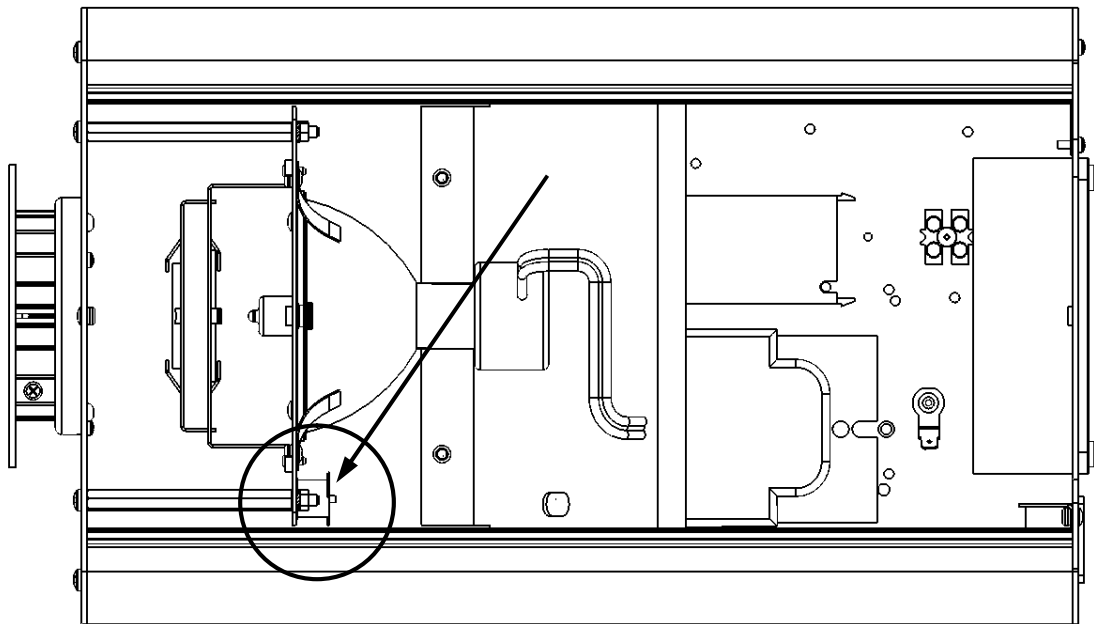

Fig 2.
3. **NOTE** that FL 150 – 2 is fitted with a manual reset temperature cut-out (80° C), placed beside the lamp. See Fig 2 below.